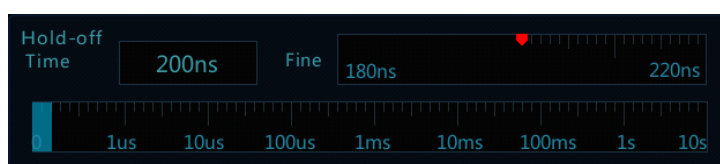

Figure 6-10 Trigger Hold-off Time Setting
- 1) Tap "Trigger" on the main menu to open the trigger menu. Under "Common", tap the box after "hold-off Time" to open the hold-off time adjustment interface. The trigger time is displayed on the upper left, the fine adjustment time scale is displayed on the upper right, and the coarse time scale is displayed below, as shown in Figure 6-10.